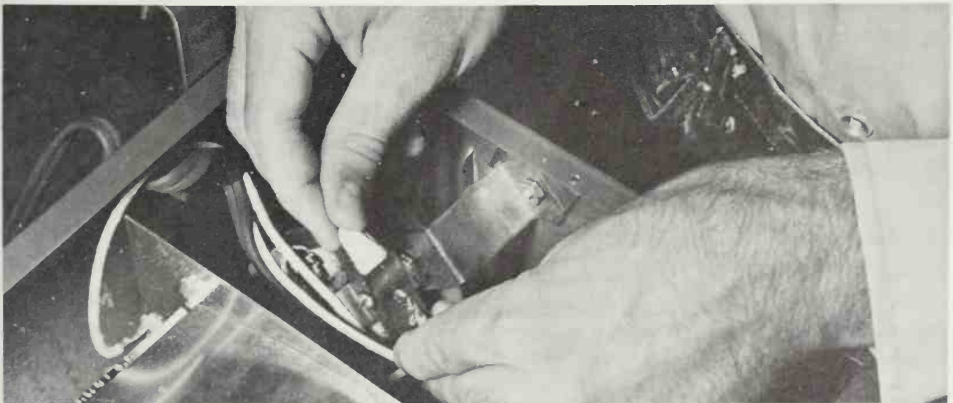

Figure 14. The thermostat switch in this heater is easily replaced, because wire connections are held by a cap rather than being soldered. The cap is removed.
- Find the thermostat and tip-over switch (Figures 14 and 15). With your finger, carefully pull each off its electric contact and inspect if the thermostat is accessible. If the metal element sticks, or contacts are pitted or badly oxidized, replace the part with one of exactly the same rating.